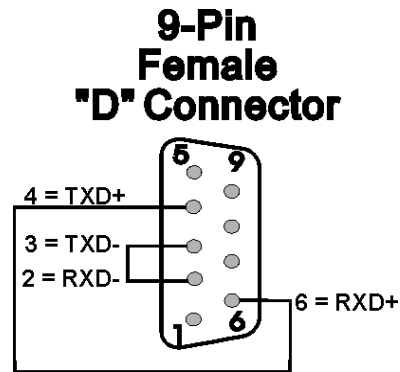

Figure 5-13. RS-485 Loop-back Plug
- Ports 3, 5, and 9 (RS-485) use a 9-pin female D-type loop-back plug (shown in *Figure 5-13*).